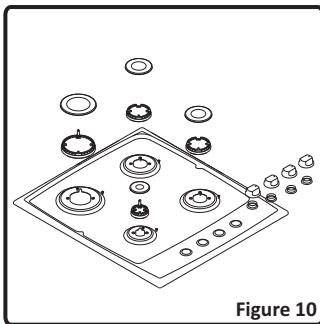

Figure 10
- Remove the burner cap and the adapter(Figure 10).
The flame length in the minimum position is adjusted with a flat screw located on the valve. For valves with flame failure device, the screw is located on the side of the valve spindle(Figure 8-9). For valves without flame failure device, the screw is located inside the valve spindle(Figure 10). For easier reduced flame adjustment, it is advised to remove the control panel (and microswitch, if present) during adjustment.